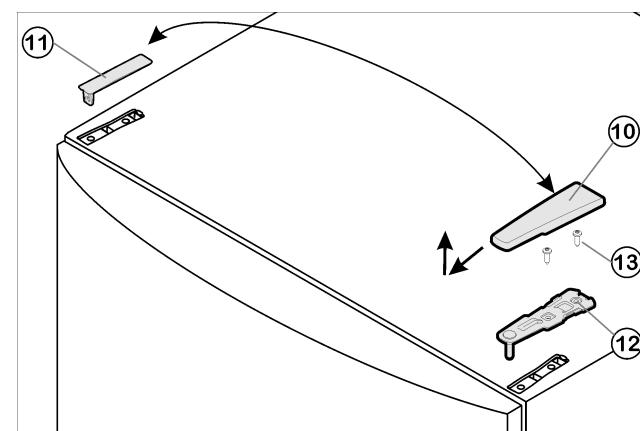

Fig. 8
- Pull cover Fig. 8 (10) forward and upwards to remove.
- Lift off cover Fig. 8 (11).
- Unscrew upper bearing bracket Fig. 8 (12)(2 x Torx® 25) Fig. 8 (13) and pull it upwards to remove.
- Insert the upper bearing bracket Fig. 8 (12) on the new hinge side into the door.
- Tighten the upper bearing bracket (**to 4 Nm**) (2 x Torx® 25) Fig. 8 (13). Make preliminary holes (optional) or use a cordless screwdriver.
- Snap both cover Fig. 8 (11) and cover Fig. 8 (10) into place on the opposite side.